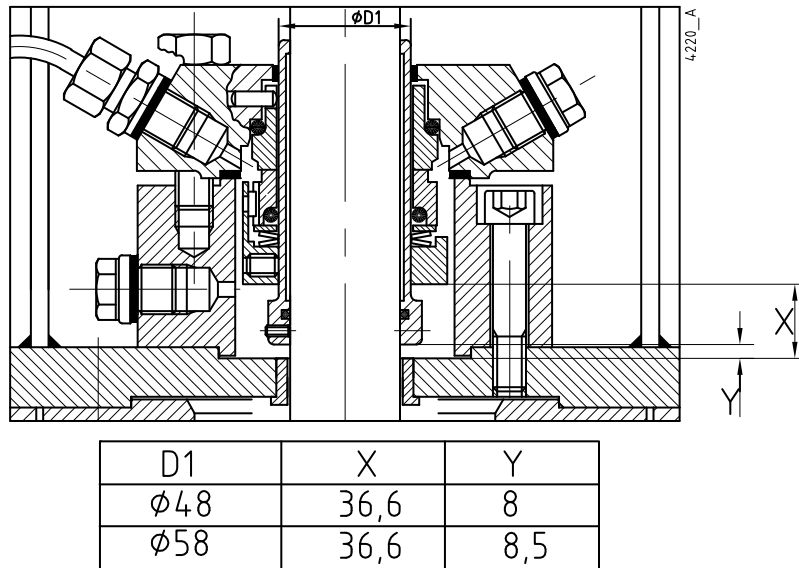

Figure 13: Mounting of the mechanical seal M2.
- 2 Fit the O-ring (2320) in the shaft sleeve (2310) and mount the shaft sleeve, with the shoulder downward. The distance between the shaft sleeve and the lantern flange should be set according to distance Y, see figure 13. Secure the shaft sleeve with the set screws (2330).
- 4 The distance from the shaft sleeve shoulder to the rotating part of the mechanical seal should be according to distance X, see figure 13. Then lock the rotating part of the mechanical seal with the set screw.